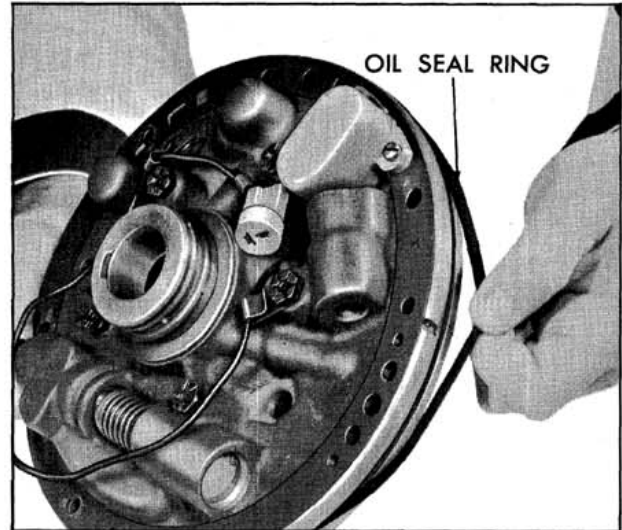

Fig. 6-57 Removing Front Pump "O" Ring
3. Remove and discard pump to case seal "O" ring. (Fig. 6-57)